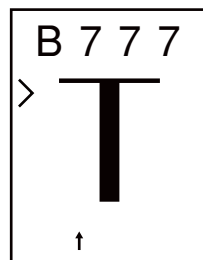
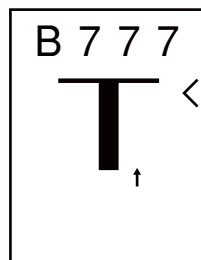
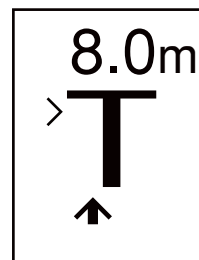
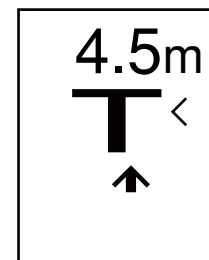

Fig.5
Fig.6
Fig.7
Fig.8
- (2) Deviation of an upward yellow arrow from the center line of "T" indicates the deviation of the approaching aircraft relative to the center line of the parking stand either to right or left. Further, an additional flashing red arrow on the either side indicates the required direction for the aircraft to turn (Fig.5, Fig.6) and indicate numerical value of remaining distance. (Fig.7, Fig.8)